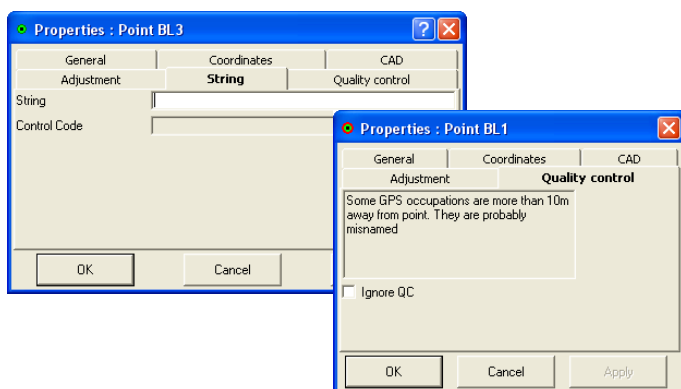

Figure 5-83. Strings and Quality Control Properties
6. The *Strings* tab edits the first string and displays the control code for the point (Figure 5-83 on page 5-54).
7. View *Quality Control* tab contains informational text on selected points (marked in red on the views) that did not pass some of the quality control checks (Figure 5-83 on page 5-54). To turn off the feature that marks a point red when it fails some quality control tests, select the *Ignore QC* check box.